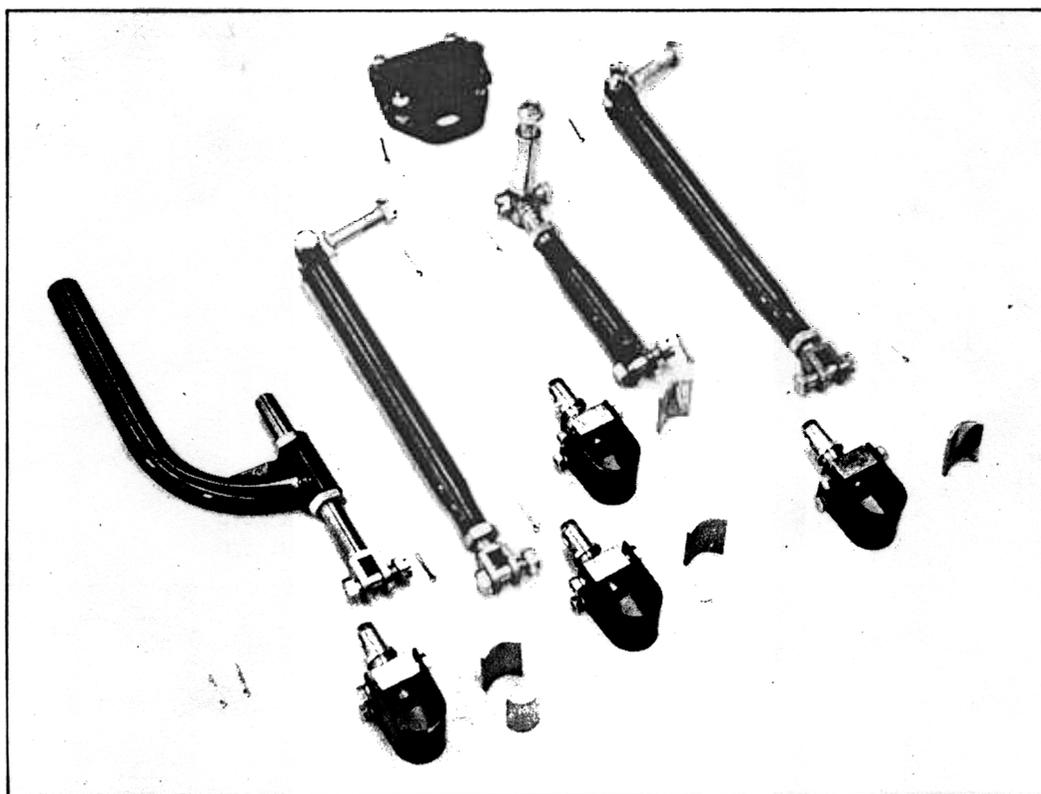

FIGURE 1. Attachment Kit, Part No. 562-08-800, showing Struts, U-Clamps, Sliding Clamp, Shims, Cotter Pins. Bolts and Nuts shown fitted to assemblies.
An **Attachment Kit** (Part No. 562-08-800), shown in figure 1, is supplied with each Velorex Sidecar and is packed in the luggage compartment. The keys to the luggage compartment, and the molded windshield, are placed inside the sidecar.
4. Working in a clear area, prop up the frame of the sidecar with blocks of wood or bricks to hold it level. Remove the Attachment Kit from the luggage compartment and check all parts against those shown in figure 1. A detailed Parts List and Exploded View is shown in Section D, along with the related Part Numbers.